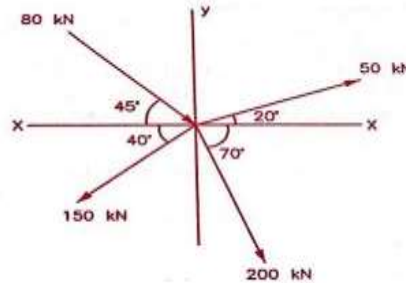

Figure 2
- (b) Find the resultant of given force system. Also find direction of the resultant as shown in the Figure 2. [05]